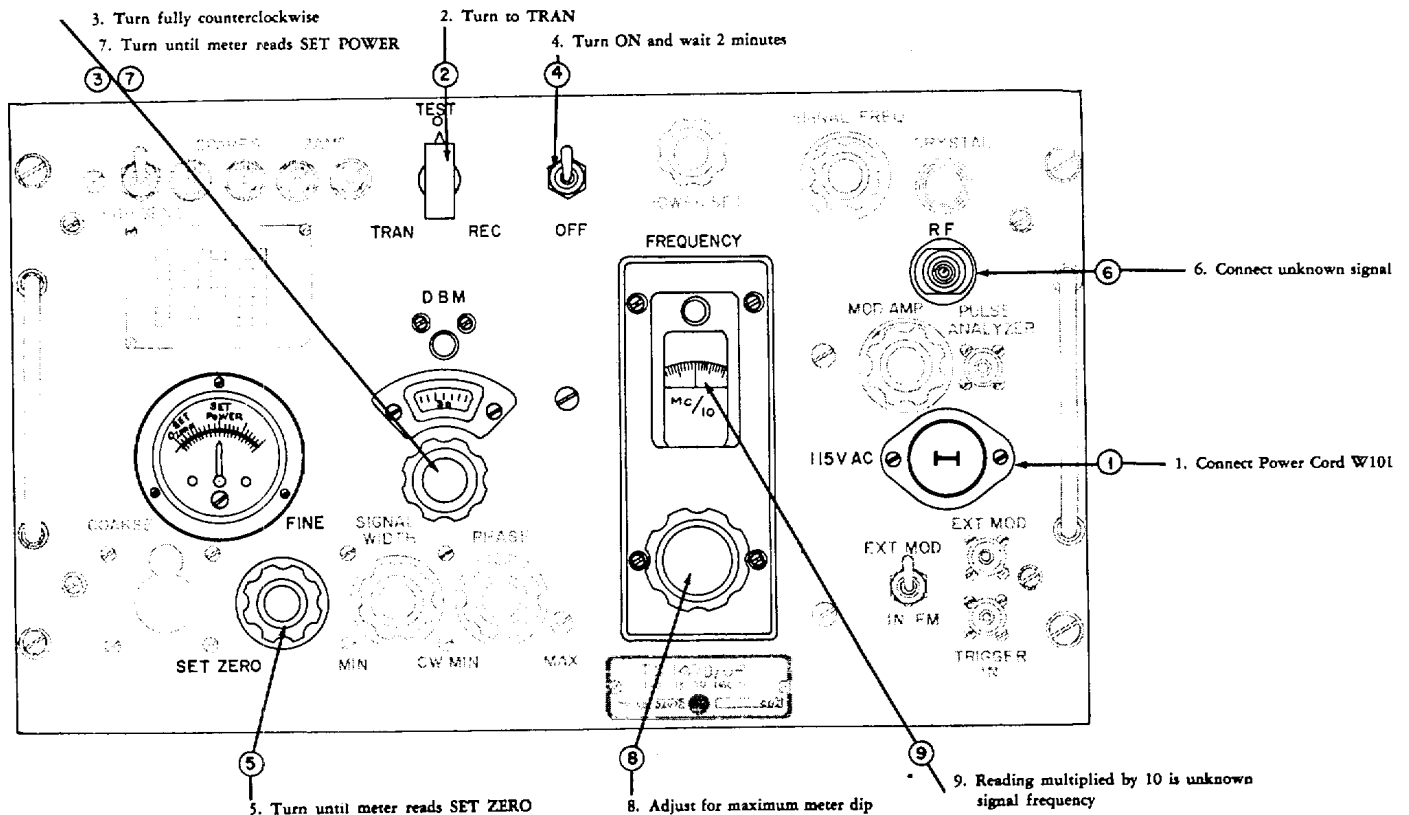

Figure 4-4. Simplified Procedure for Operating Test Set TS-147D/UP as a Frequency Measuring Device
(See figures 4-4, 4-5, 4-6, 4-7, and 4-8.)
(1) General functional operating procedures for using the test set as a frequency measuring device, a power measuring device, a CW signal generator, an FM signal generator, and a pulsed signal generator are given in figures 4-4, 4-5, 4-6, 4-7, and 4-8 respectively. These functions form the basis for performing all of the test procedures. Each specialized test is an application of one or more of the basic functions.
(See figure 4-4.)